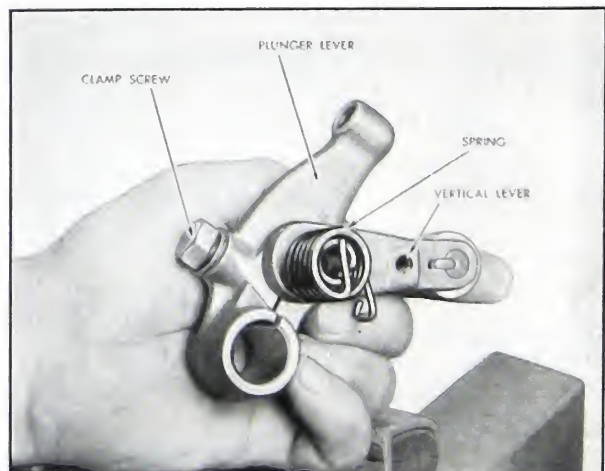

Fig. 5-15. Vertical lever assembly
5. Lift the vertical lever assembly from the housing. Fig. 5-15.